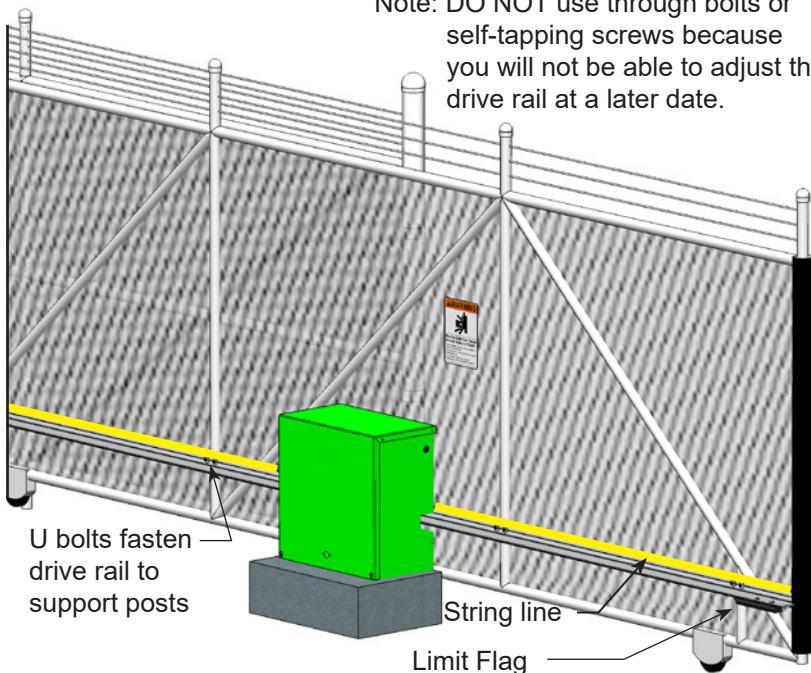

Figure 7. Set Drive Rail Depth
5. For reference, run a string line or laser along the entire length of the drive rail. Compare the edge of the drive rail with the string line or laser. Place shims between the upright support structure and drive rail to keep the drive rail straight (Figure 7).